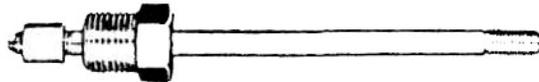

Figure 2-13. Illustration 2: Assembly and Makeup of Connection
- A. After coning and threading operations, use Figure 2-13 (Illustration 2) and Table 2-19 for properly connecting and torquing coned connections.